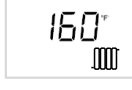

Figure 14-9: Lighting and Operating Instructions
1. Start boiler using lighting instructions in Figure 14-9. With boiler powered up, and with no call for heat, display should look like Figure 14-4. Once a call for heat is present, it will look like Figure 14-5.